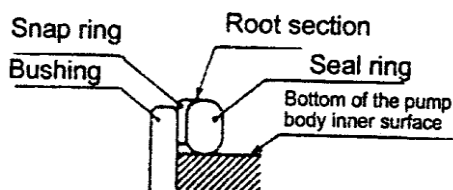

Fig. 7-15 Seal
- (e) Install a new seal ring and a new ring on the groove of the rear cover. (Fig. 7-15)